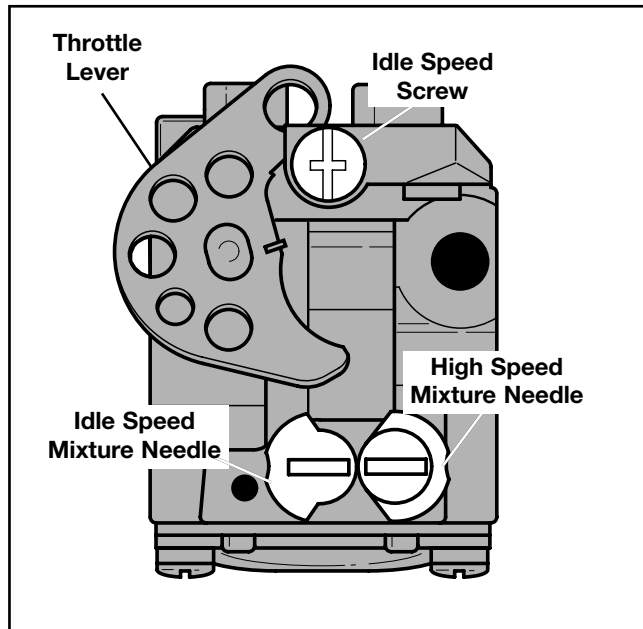

Fig. 40
**Initial Idle Speed Setting:** Back the idle speed screw (Fig. 40) **out (counterclockwise)** until it *does not* contact the carburetor throttle lever. Then turn the screw **in (clockwise)** until it *just begins to move* the throttle lever; then continue turning **2 full turns**.
4. Start the engine and let it run for three (3) to five (5) minutes with the throttle trigger fully squeezed.
5. Release the throttle trigger and let the engine idle. If the engine stops, turn the idle speed screw (Fig. 40) **n (clockwise) 1/8 turn** at a time (as required) until the engine idles.